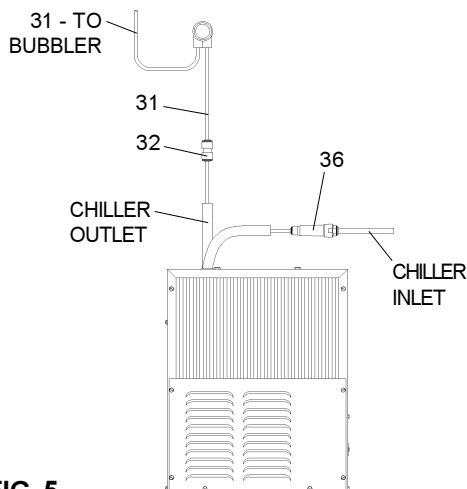

FIG. 5
3. **ERHPA MODELS:** Make connection between remote chiller and building supply line. Inlet port is marked on the chiller (1/4" O.D. copper tube). Bend the copper tube (provided) at an appropriate length from chiller to opening in frame. Install the in-line strainer (provided with chiller) by pushing it in until it reaches a positive stop, approximately 3/4" (19mm) on the marked chiller inlet port. Connect building supply line to strainer. **DO NOT SOLDER TUBES INSERTED INTO THE STRAINER AS DAMAGE TO THE O-RINGS MAY RESULT.** (See Figure 5).
5. **Install** the fountain. Mount the fountain to the upper panel and the wall frame with (4) 1/4" x 3/4" (19mm) long bolts and nuts (provided). Tighten securely.
7. **ERHPA MODELS:** Make connections between remote chiller outlet tube and fountain. Outlet port is marked on the chiller (1/4" O.D. copper tube). Install a 1/4" x 1/4" union (provided) on the marked chiller outlet port. Insert the 1/4" poly tubing coming from the fountain into the union. Turn on water supply and check for leaks. **DO NOT SOLDER TUBES INSERTED INTO THE UNION AS DAMAGE TO THE O-RINGS MAY RESULT.** (See Figure 5).